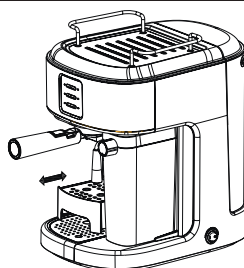

Рис. 10
- Place a corresponding cup on a respective tray (3 or 5) (fig. 10) and turn the cappuccina-pipe (2) to the cup using the bar (8).
- Switch the coffee maker on by pressing the button (14), the illumination of the buttons (23, 24 and 25) on the control panel will start flashing.
- When the illumination stops flashing, press the cappuccino button «» (24) twice.